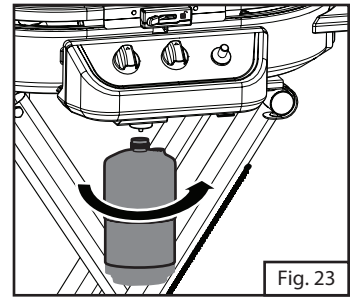

Fig. 23
- Remove plastic cap from top of propane cylinder and screw cylinder into regulator hand tight. (Fig. 23)